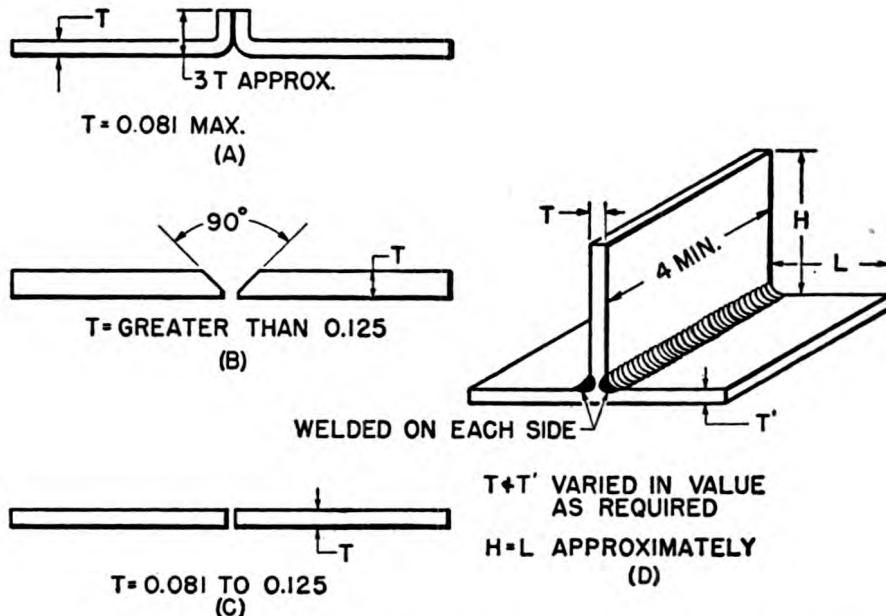

Figure 51.—Welding samples of flanged, butt, and fillet joints on aluminum sheet.
They are the flanged joint on metal 0.081 inch thick like (A) of figure 51, the butt joint on metal from 0.081 to more than 0.125 inch like (B) and (C) of figure 51 and the fillet T joint as in (D) of figure 51.
Thicknesses of metal between 0.081 and 0.125 inch need not be beveled or flanged. Their normal square shape is O. K. For the butt joint in sheet aluminum of MORE THAN 0.125-inch thickness, you must bevel the edges at  $45^{\circ}$  angles to form an included angle of approximately  $90^{\circ}$  as in (B) of figure 51.